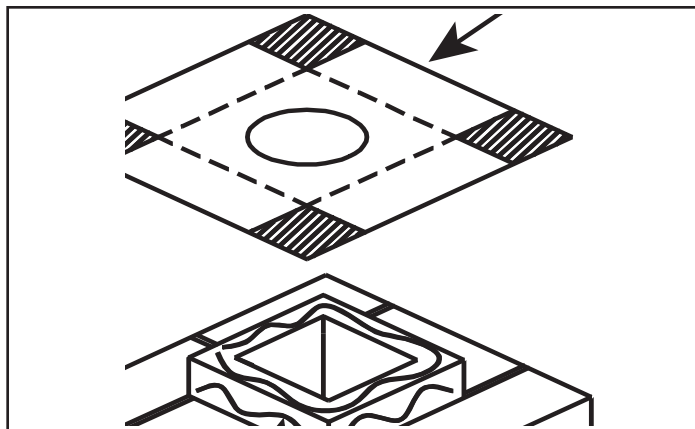

Figure 4.26
3. Secure the flashing to the top of the masonry chimney using a bead of non-hardening sealant-adhesive. If the flashing is larger than the top of the chimney, cut and fold flashing as needed to fit chimney. See Figure 4.26.